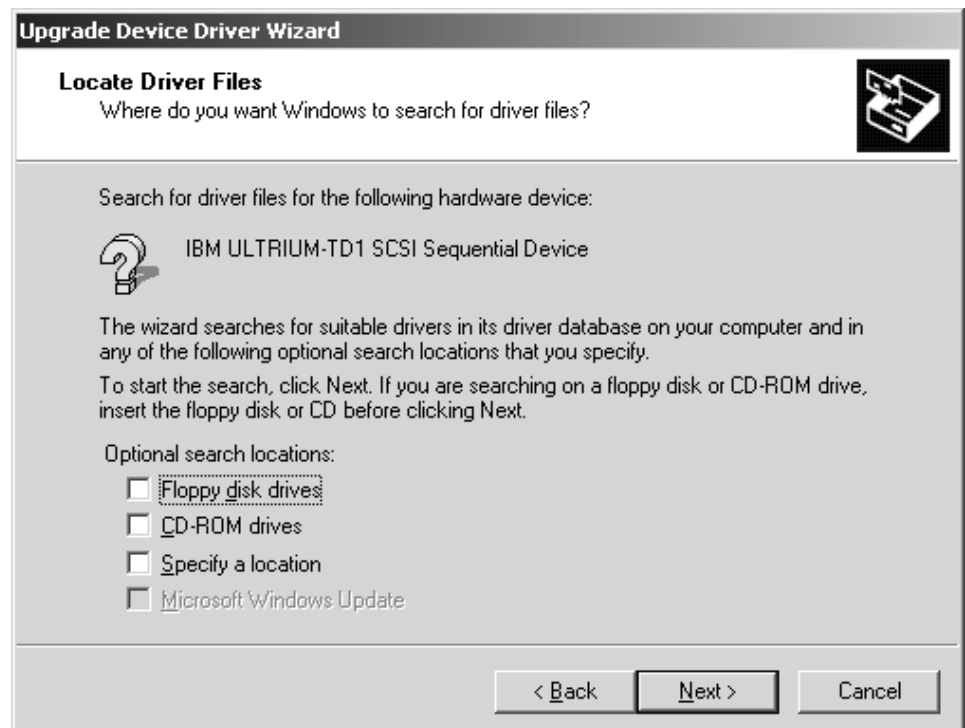

Figure 31. Locate Driver Files Menu
11. If you have completed steps 2 through 4 on page 176, the Ultrium device drivers files should already be copied to your hard drive. Clear **Floppy disk drives** and **CD-ROM drives**, then click **Next >**. See Figure 31.